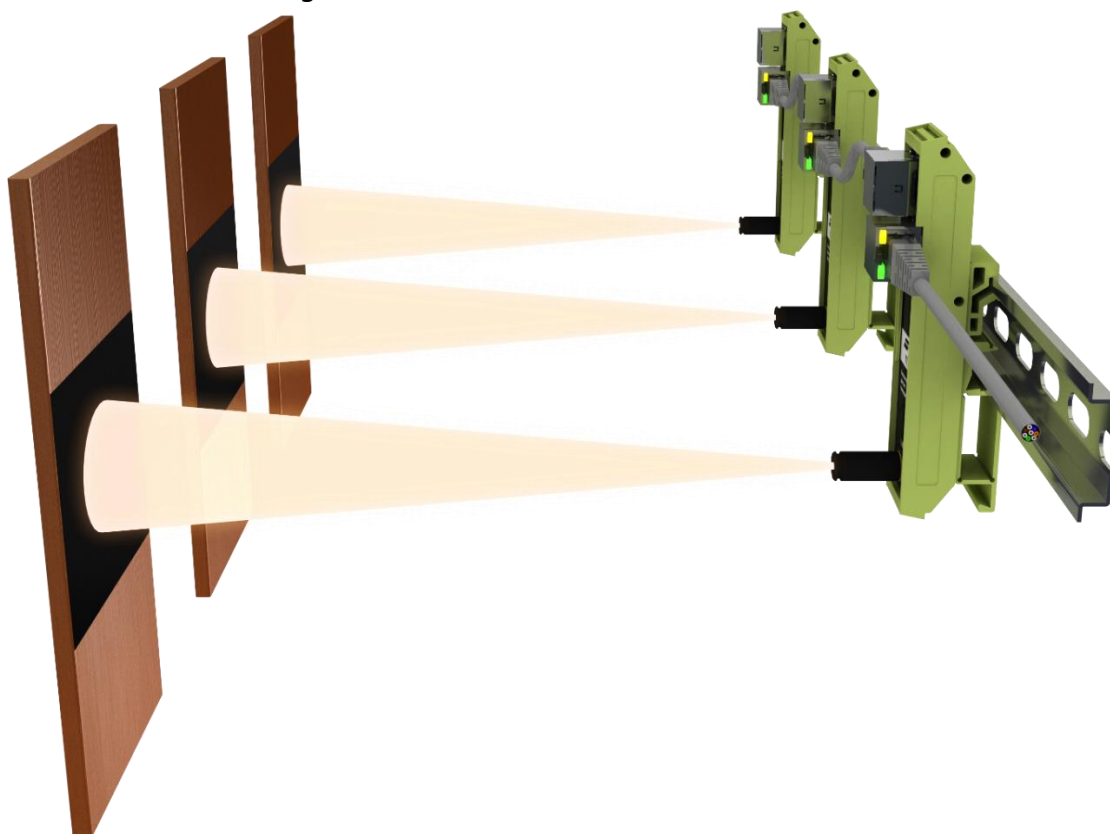

Figure 4.1. An example of busbars temperature measurement
- 4.5.3 An example of temperature measurement of busbars in a switchgear panel of electric substation is shown on figure 4.1.